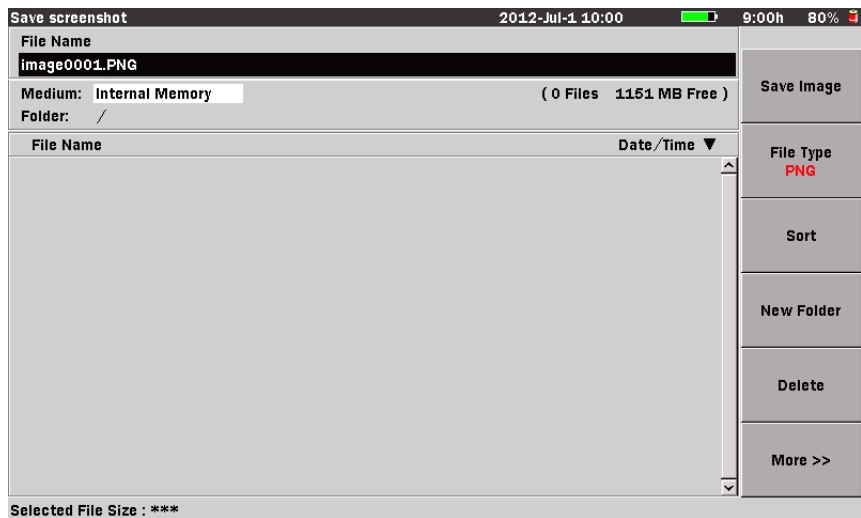

Figure 3-20: Save Screenshot Screen
2. Press **File (f2)**. The Save screenshot screen appears (see Figure 3-20).